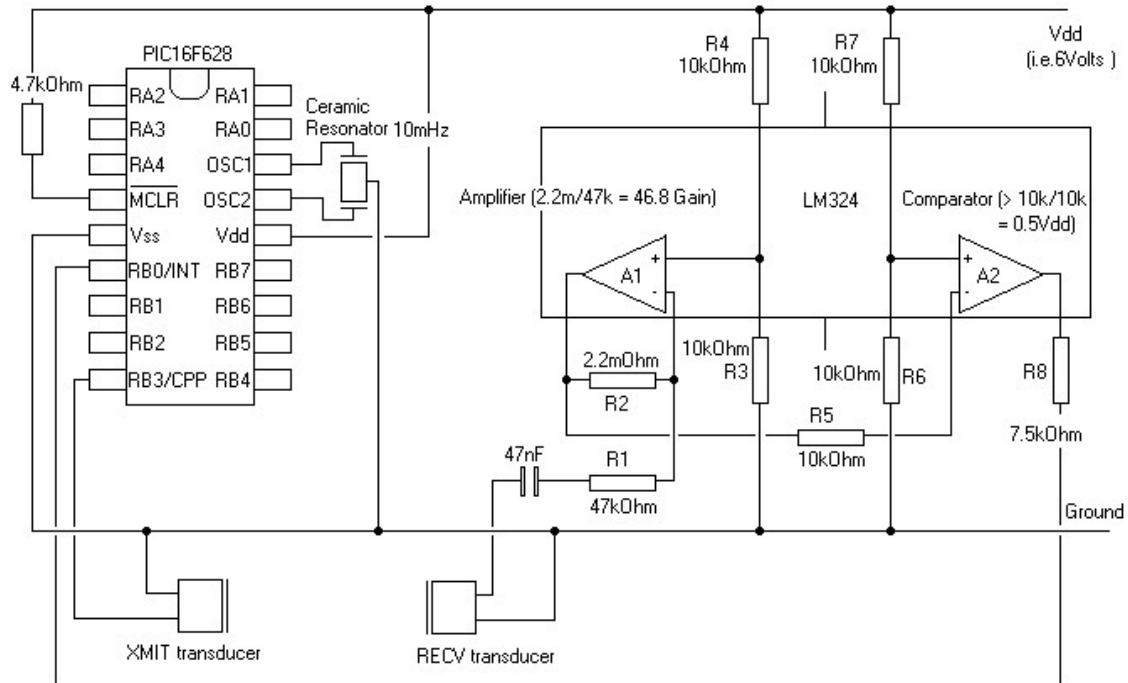
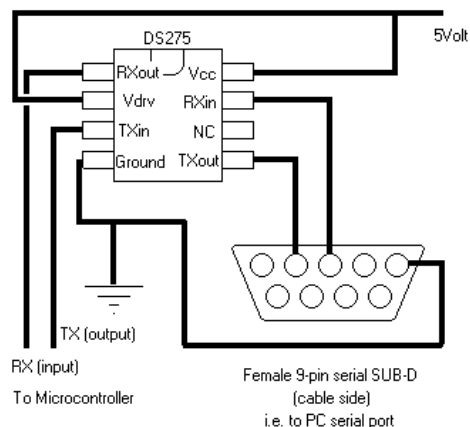

Figure 2. The sonar sensor circuit, with on the right the detector.
Figure 3. RS232 level-converter circuit.
Figure 2 shows a standard PIC16F628 circuit, with 4.7kOhm pull-up resistor on MCLR to provide a reset-signal and a 10mHz resonator to provide the clock-signal.
The external interrupt pin on RB0 is used to input the output of the detector circuit, shown on the right in figure 2. The detector circuit is built around the LM324 IC, which provides 4 low power operational amplifiers. Only 2 opamps are used in this circuit.
Note that the LM324 power-lines are not shown in figure 2, nor are any pin-numbers. The reason is that the 14-pin LM324 package is symmetrical. Each side of the LM324 contains 6 pins for 2 OpAmps opposite to each other. The pins in the middle are the Vdd and Ground lines of the IC. Depending on how you build the circuit you can use any 2 OpAmps of the LM324.
To test the circuit, I also connected a DS275 RS232 level-converter to RB1 (RX) and RB2 (TX) to use the USART of the PIC16F628. Figure 3 shows how to wire the DS275 into the circuit of figure 2.